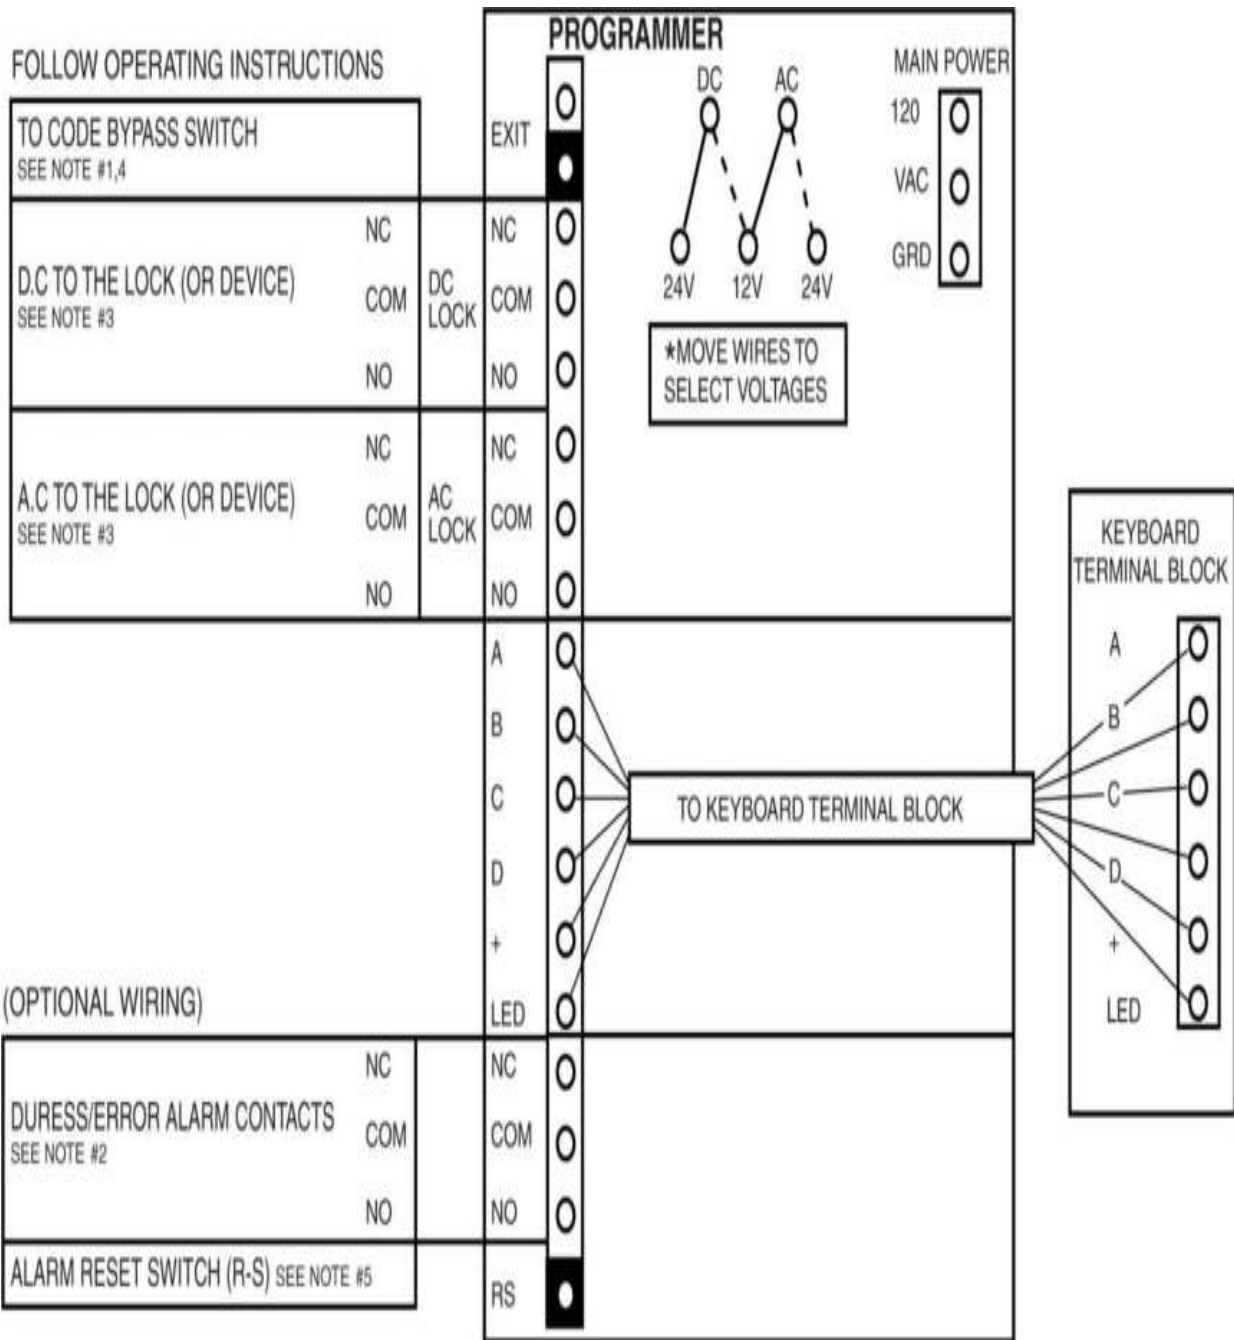

**Figure 19.71** Memorilok wiring instructions (refer to text for notes). (*Alarm Lock Corporation* )
**Wiring instructions.** Wiring details are in Fig. 19.71 . The following notes apply, as referenced in the figure: